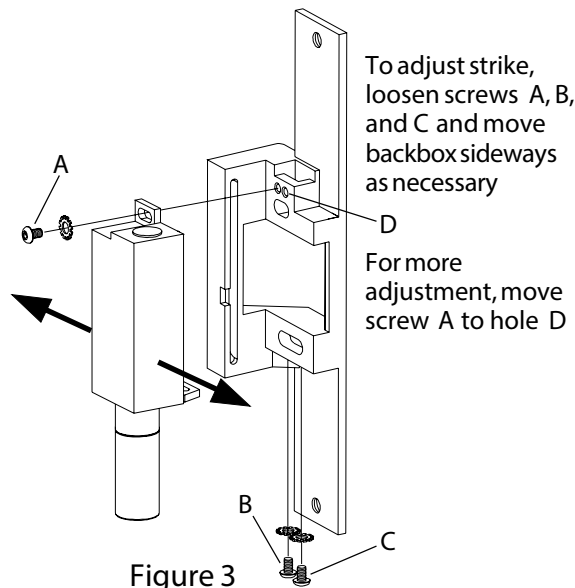

Figure 3
5. Install strike with two #12-24 screws. Make sure clearance between latch bolt and strike lip is 1/32" (Figure 2). If not, uninstall strike, adjust (Figure 3), and reinstall.